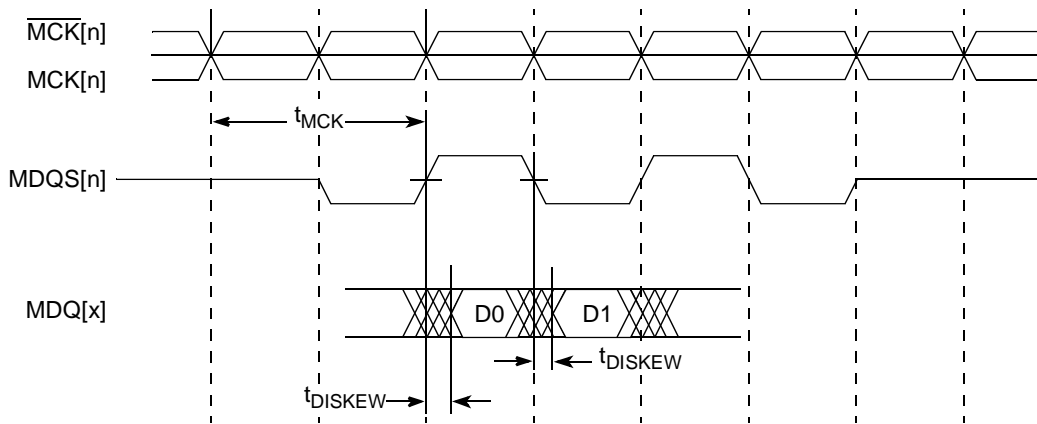

Figure 3. DDR SDRAM Input Timing Diagram (t_{DISKEW})
- The amount of skew that can be tolerated from MDQS to a corresponding MDQ signal is called t_{DISKEW} . This can be determined by the following equation: $t_{DISKEW} = \pm (T/4 - \text{abs}(t_{CISKEW}))$, where T is the clock period and $\text{abs}(t_{CISKEW})$ is the absolute value of t_{CISKEW} . See Figure 3.